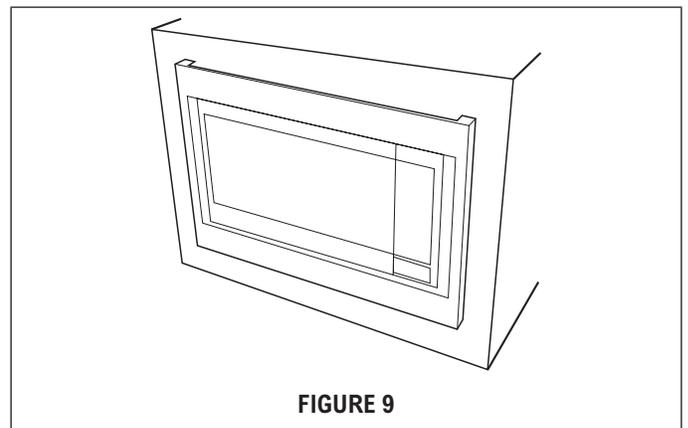

FIGURE 9
6. **FRONT FRAME INSTALLATION:** Place the FRONT FRAME onto the BACK FRAME and align ball studs and receivers. Secure the FRONT FRAME to the BACK FRAME by firmly pushing the FRONT FRAME onto the BACK FRAME engaging the 4 snap attachments. See Figures 9 and 10.